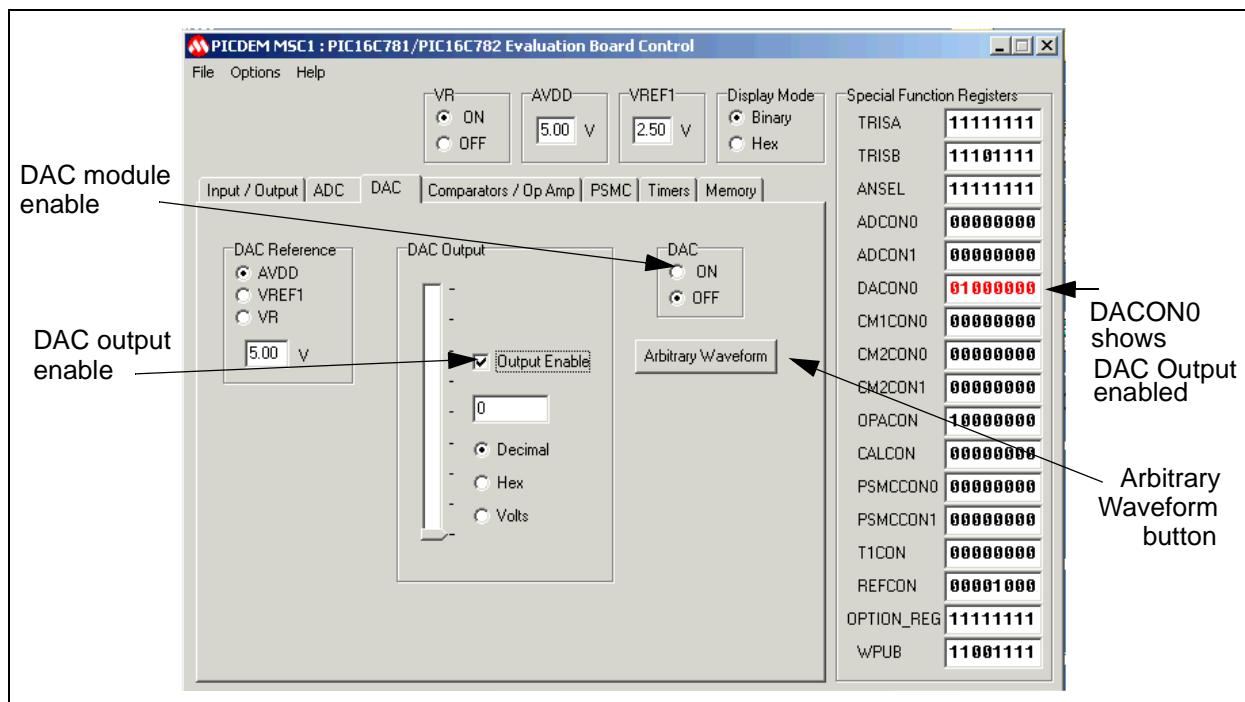

Figure 3.3: DAC Setup Initial Display
- 5. Select the DAC tab on the Evaluation Tool Control Panel. The Control Panel displays the DAC controls, as shown in Figure 3.3. Note the DAC output is shown enabled.
The Control Panel changes to appear as shown in Figure 3.3.